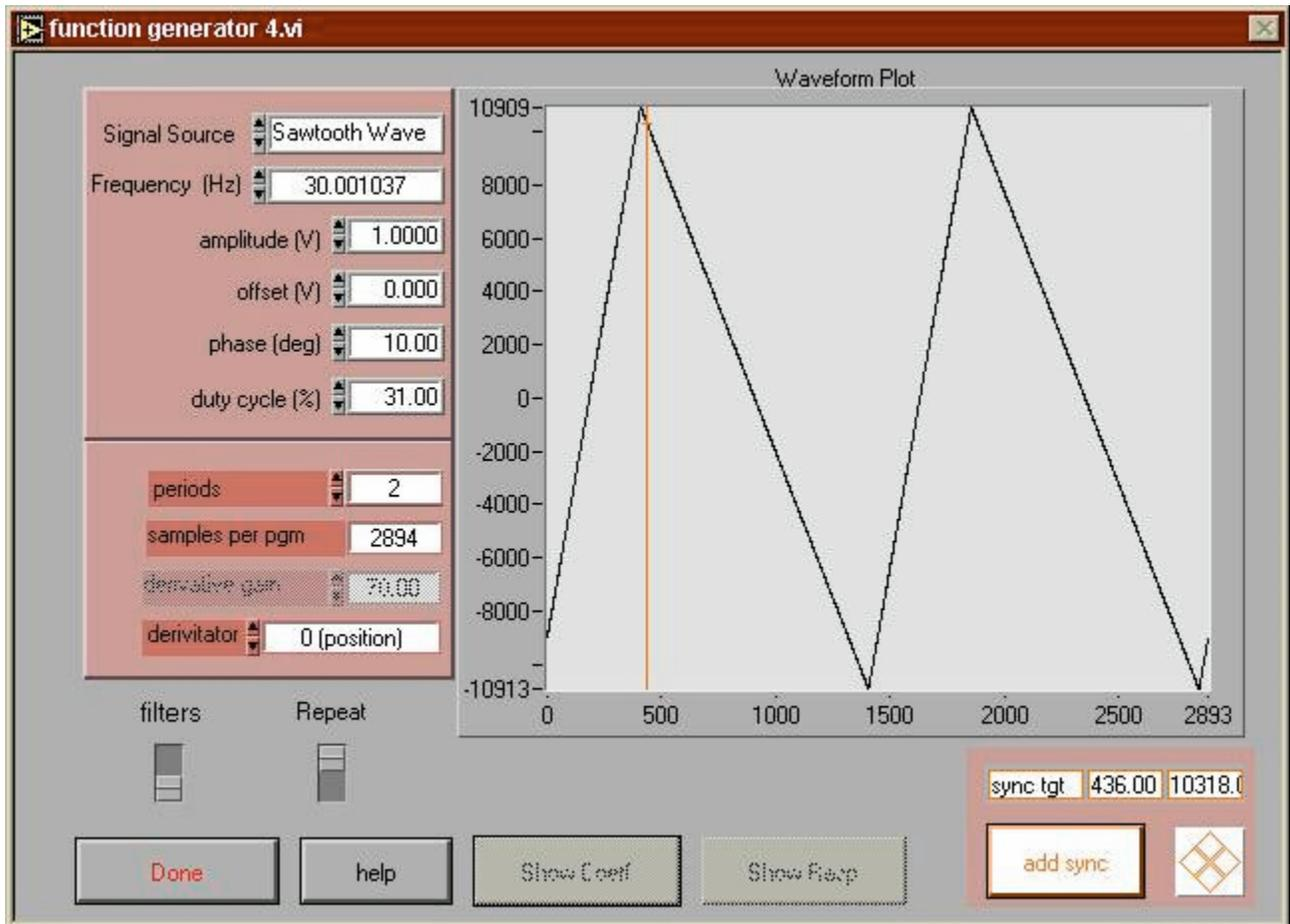

Figure 27 Load wave window
1. **Raster Draw / Load Wave:** This brings up the window shown in Figure 27. **Signal Source** provides the means to select the basic wave-shape. **Frequency and Amplitude** (in peak volts, of the commanded wave-form) can be entered in the appropriate places. **Offset** will adjust a DC offset term which is added to the wave-form, and the **phase** variable sets the location the 'repeat' statement. **Ticks per sample** controls how finely the waveform is broken up into straight-line segments. The Scan Controller codec operates at a constant update rate of 43.411 kHz (it outputs command voltages to the galvo at this constant rate). One way of generating wave-forms is to store one point for each point output to the galvo. For many applications this is unnecessary – the program can be made of many fewer points, and the Scan Controller will generate straight lines between them using the **slewxy** or **slew** commands. **The Ticks per sample** control controls this granularity. When it is set to 1 a command is generated for each point to the galvo – if it is set to 10 then a command is generated for every ten points, and straight lines are drawn between them. For 'Ticks per Sample' of one, this control re-names itself **Periods** and allows multiple periods of a waveform to be generated. This is useful for generating higher frequency waveforms. The waveform plot shows the effects of varying these controls, in real-time. Finally, the **derivator** control allows the display and generation of the time derivative of the wave-form. This can be useful where velocity, rather than position is the variable of interest. When the desired wave-form is present in the plot, pressing the **Done** button brings up the Program Destination Window, shown in Figure 17. This allows you to direct the program to the Scan Controller or store to a file on the host. The title is any single character, which will be converted to a number by the program (the program describing this sine wave is called 'a').